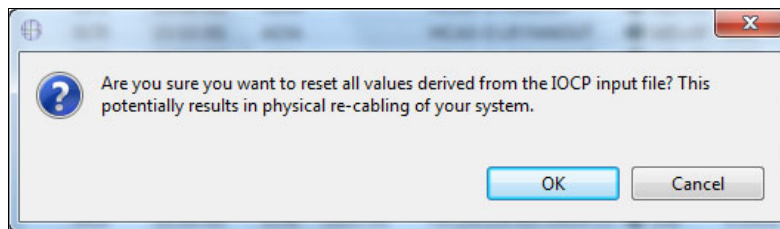

Figure 5-88 CMT - Reset CHPID assignments warning message
3. Click **OK** to confirm the reset (Figure 5-88).